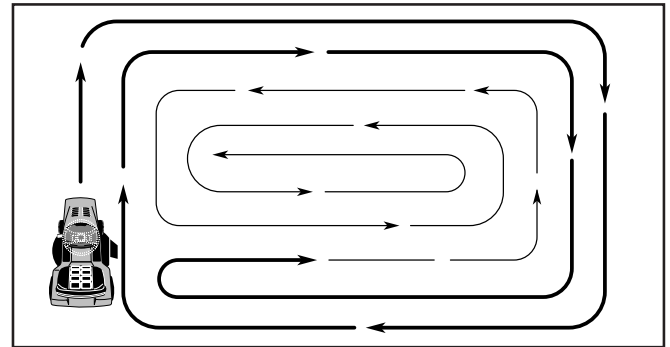

FIG. 7
- When mowing large areas, start by turning to the right so that clippings will discharge away from shrubs, fences, driveways, etc. After one or two rounds, mow in the opposite direction making left hand turns until finished (See Fig. 7).